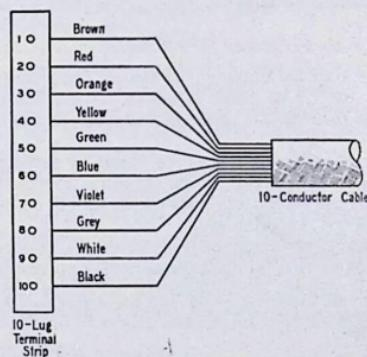

Fig. 1-10 — Using the RMA color code to terminate multiconductor cables.
**I**NSTEAD of keeping elaborate records of the colors of wires and the terminals used in a multiconductor cable hook-up, I hit on the idea of using the well-known RMA color code for this purpose. This new system works exceedingly well. Fig. 1-10 shows the basic idea. It will be